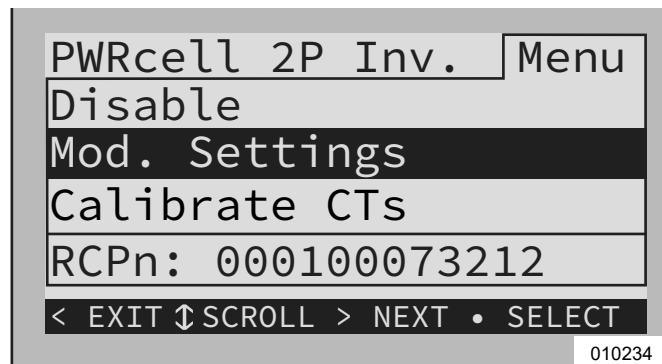

Figure 3-12. Internet Device Page
- See Figure 3-12. Highlight Mod. Settings and press the center button to select